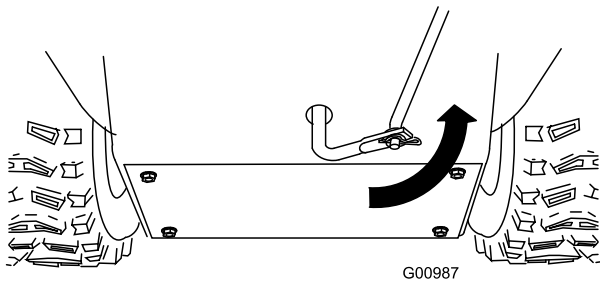

Figure 13
- 5. Rotate the lower link arm fully upward (counterclockwise) (Figure 13).